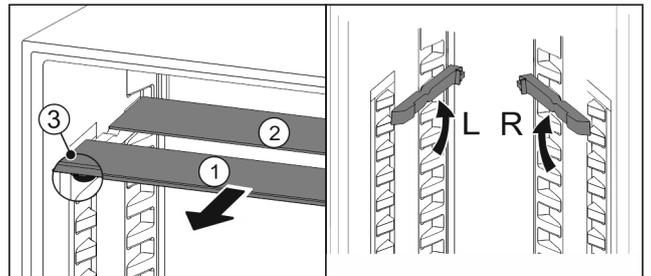

Fig. 19
- ▶ Pull the glass panels out Fig. 19 (1) from the front, one at a time.
- ▷ The glass panel Fig. 19 (1) with the trim strip is at the front.
- ▷ The stops Fig. 19 (3) point downward.